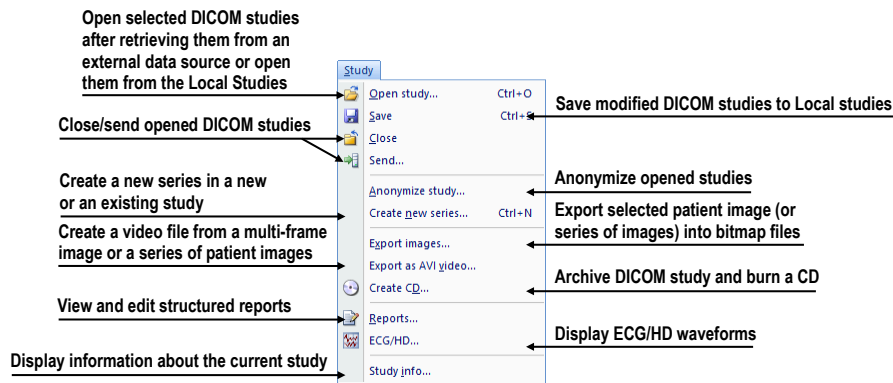

Figure 39 – Study menu
- **Study** – patient study operations containing the functions for opening/closing/saving studies, anonymizing and burning studies onto a CD, exporting images and creating/viewing structured reports (see Figure 39).